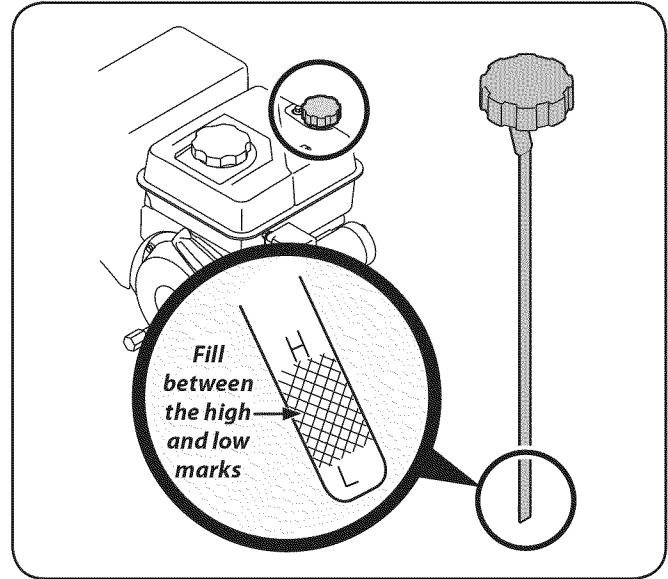

Figure 3-4
2. Remove the oil filler cap/dipstick and wipe the dipstick clean. See Fig. 3-4.
3. Slowly add oil until the oil level registers between high (H) and low (L), Fig. 3-4. Refer to the Engine Maintenance section for the correct oil viscosity and engine oil capacity.